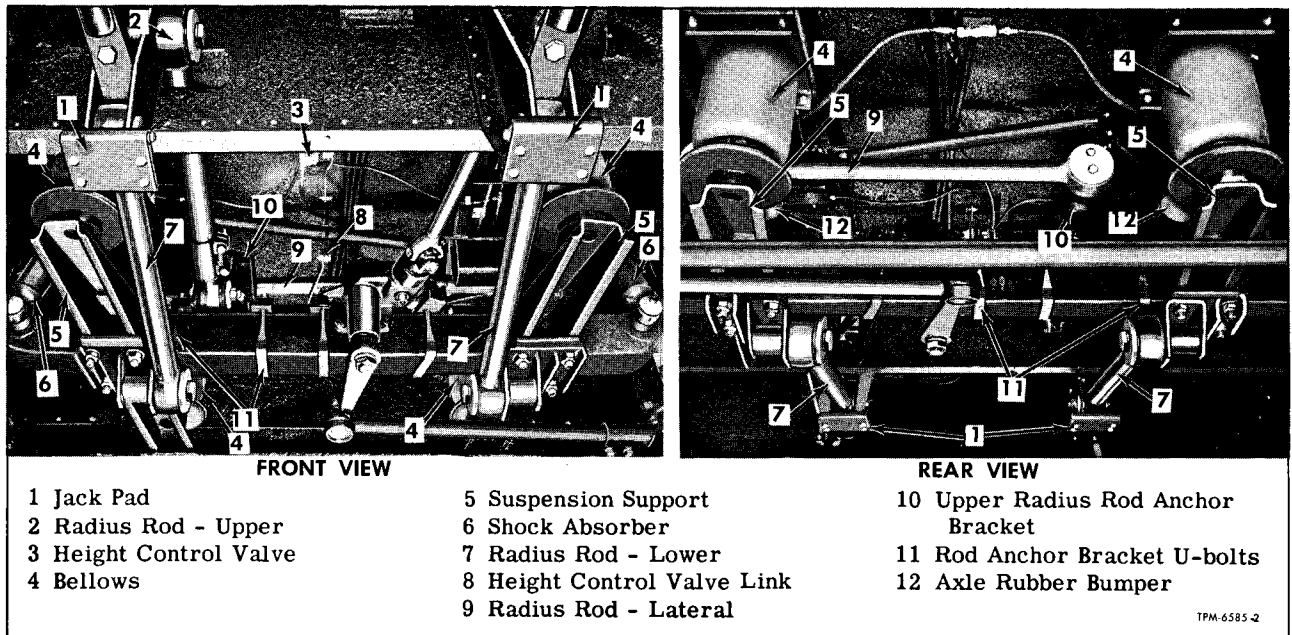

Figure 6—Front Axle and Air Suspension Installed
1. Do not attempt to work under vehicle without first blocking body or placing vehicle over a pit. With air bellows deflated, there is not sufficient clearance under vehicle for a man on a creeper. When blocking body, place blocks under jack pads provided at front and at rear lower radius rod brackets. Jack pads are shown in figure 6.
The procedures which follow cover removal of front axle assembly and suspension components. Procedures also cover removal of suspension components from axle assembly. Method used to support axle and suspension units during removal and disassembly depends upon local conditions and available equipment. Front axle and air suspension components installed are shown in figure 6.
NOTE: Key numbers in text refer to figure 6.